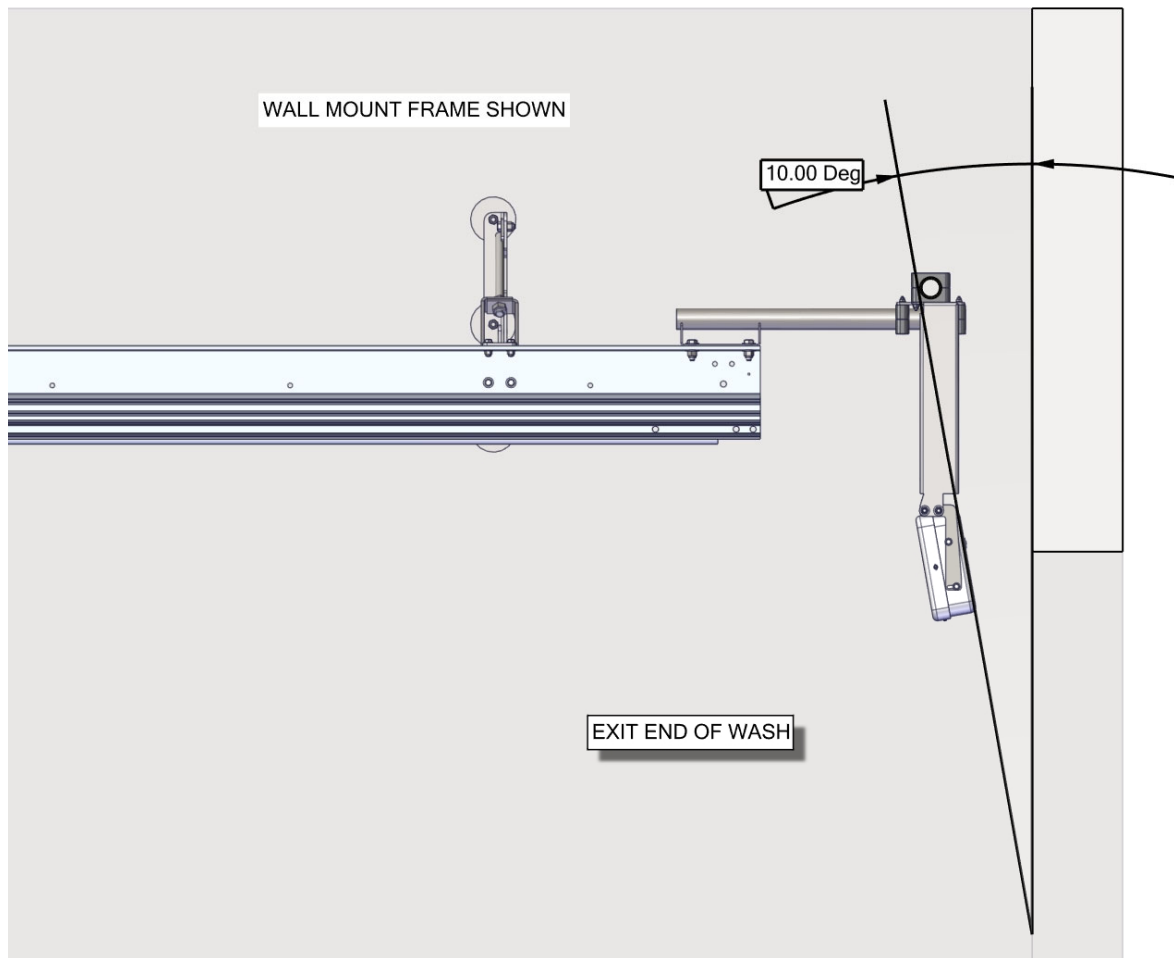

Figure 181 – Angle Instructional Sign
- Angle the Advanced Instructional Sign towards the floor of the wash for maximum visibility, Figure 181.